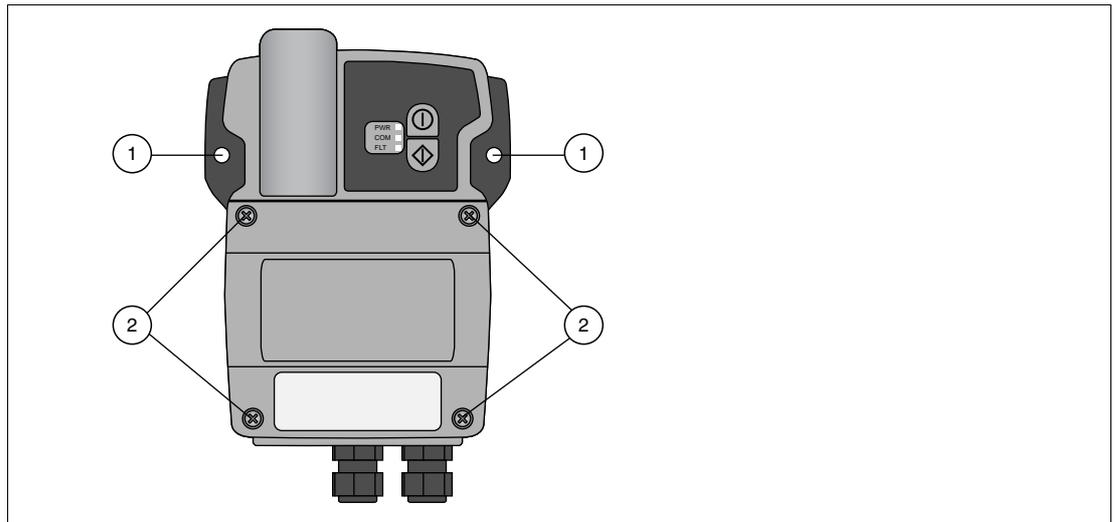

Figure 4.1 Mounting holes and housing screws
1. Drill 2 holes in the mounting surface so that they match the mounting holes of the housin. → see Figure 4.1 on page 21